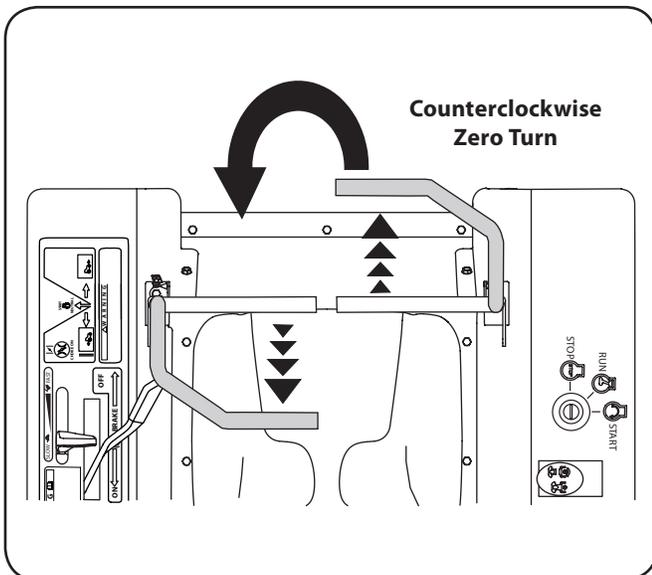

Figure 5-9
3. To turn counterclockwise, move the right control lever forward while simultaneously moving the left control lever rearward. See Fig. 5-9.